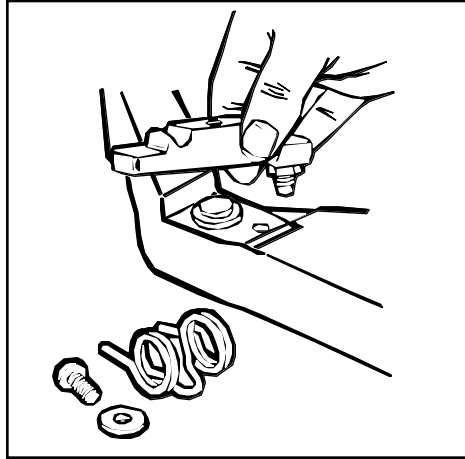

FIG. 2
- b. Remove the screw and washer that retain the slave piston torsion (return) spring. Remove the bridge assembly and the slave piston (see Fig. 2). Set the old buttonhead screw and slave piston aside for return to DDC. Retain the washer for reinstallation.